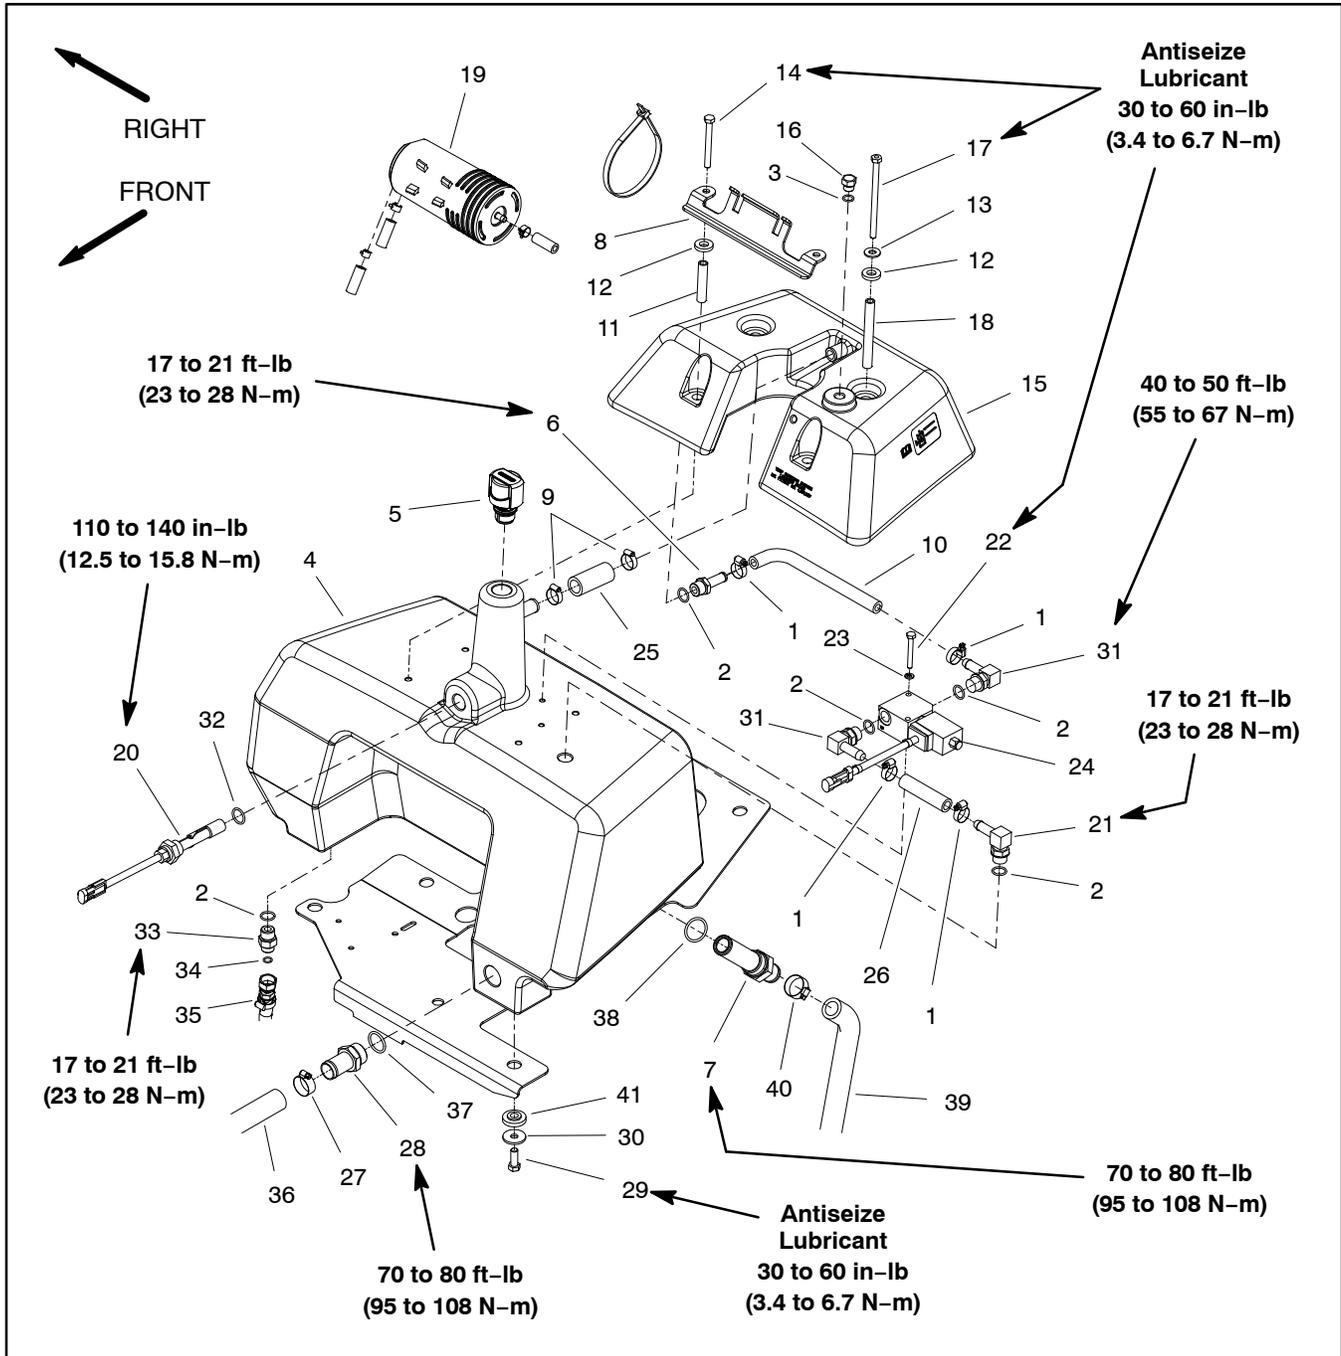

Figure 79
Removing Hydraulic Reservoir (Fig. 79)
Inspecting Reservoir Parts (Fig. 79)
Installing Hydraulic Reservoir (Fig. 79)
1. Install all removed hydraulic fittings into hydraulic reservoir ports. Torque fittings to values shown in Figure 79.